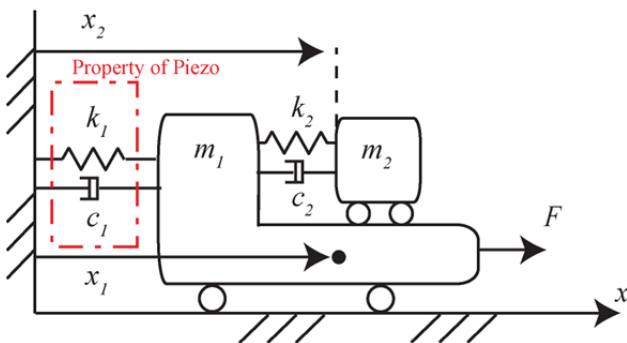

Fig. 3: A lumped mass model of a positioning system.
3. A positioning system using a piezoelectric actuator can be modeled as a lumped mass model in Fig.3, where piezo's stiffness and damping are represented by k_1 and c_1 . The moving mass, m_1 and m_2 are connected by spring constant k_2 and damping coefficient c_2 . The values of these parameters are given in Table1.